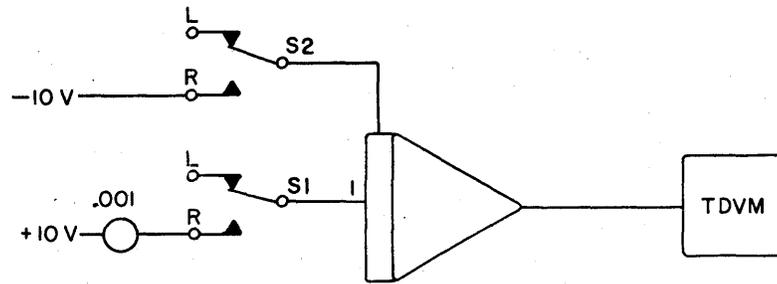

FIGURE 2.2-3 INTEGRATOR OPERATIONAL TEST SETUP
- (1) Patch the test circuit shown in Figure 2.2-3. Place the computer in the reset mode.
- (2) Close S1; the TDVM should read zero.
- (3) Close S2; the TDVM should read +10 volts.
- (4) Place the computer in hold. The TDVM reading should remain at +10 volts.
- (5) Place the computer in operate. The integrator output should change linearly from +10 volts at a rate of minus one volt per second. (A stop watch will normally be of sufficient accuracy for maintenance purposes for this test. If accurate measurement is required a more elaborate time-measuring procedure is required.)
- (6) After exactly 20 seconds of operation place the computer in hold; the TDVM should read -10 volts.
- (7) Place the computer in reset; the TDVM should read +10 volts.